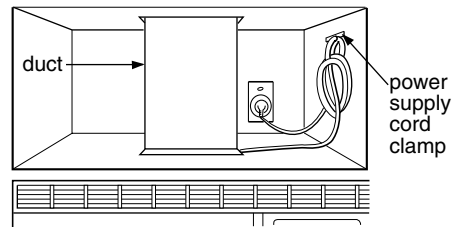

Figure 34
6. Use power supply cord clamp to bundle the power supply cord. Install the power supply cord clamp, using a screw as shown in Figure 34, to inside of the cabinet.